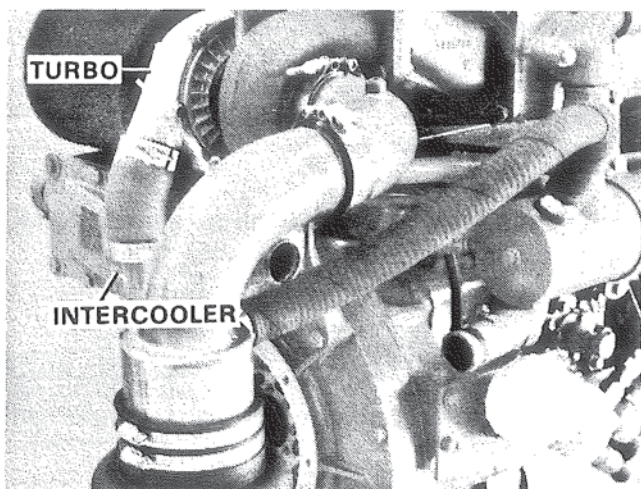

Figure 13. Removing Turbocharger and Intercooler Hoses (T.I. & T.W. Only).
3. Remove turbocharger and intercooler hoses, (T.I. only). Figure 13.